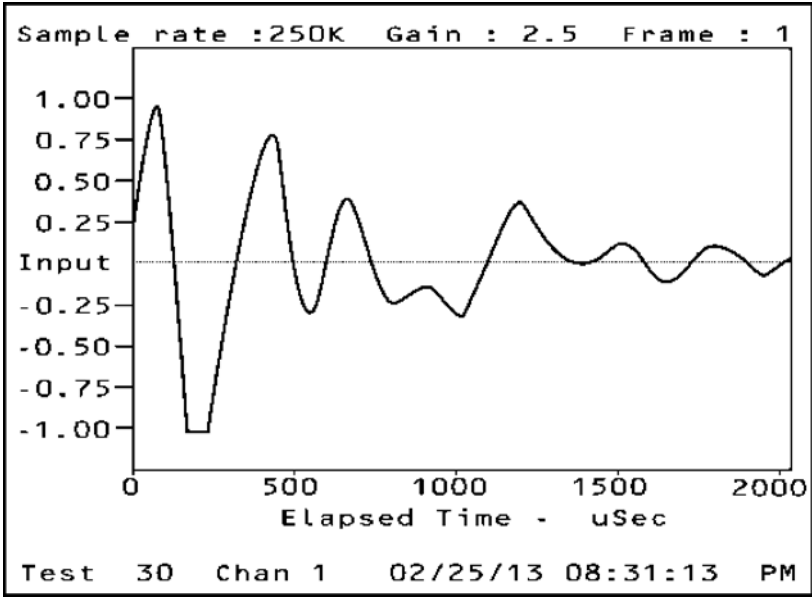

Figure 34
Step 5. The Vu-Con® will generate a voltage versus time waveform for analyzing (figure 34). (Note: For more information about the voltage versus time waveform graph please see the “Impact - Echo” book given with the system.)